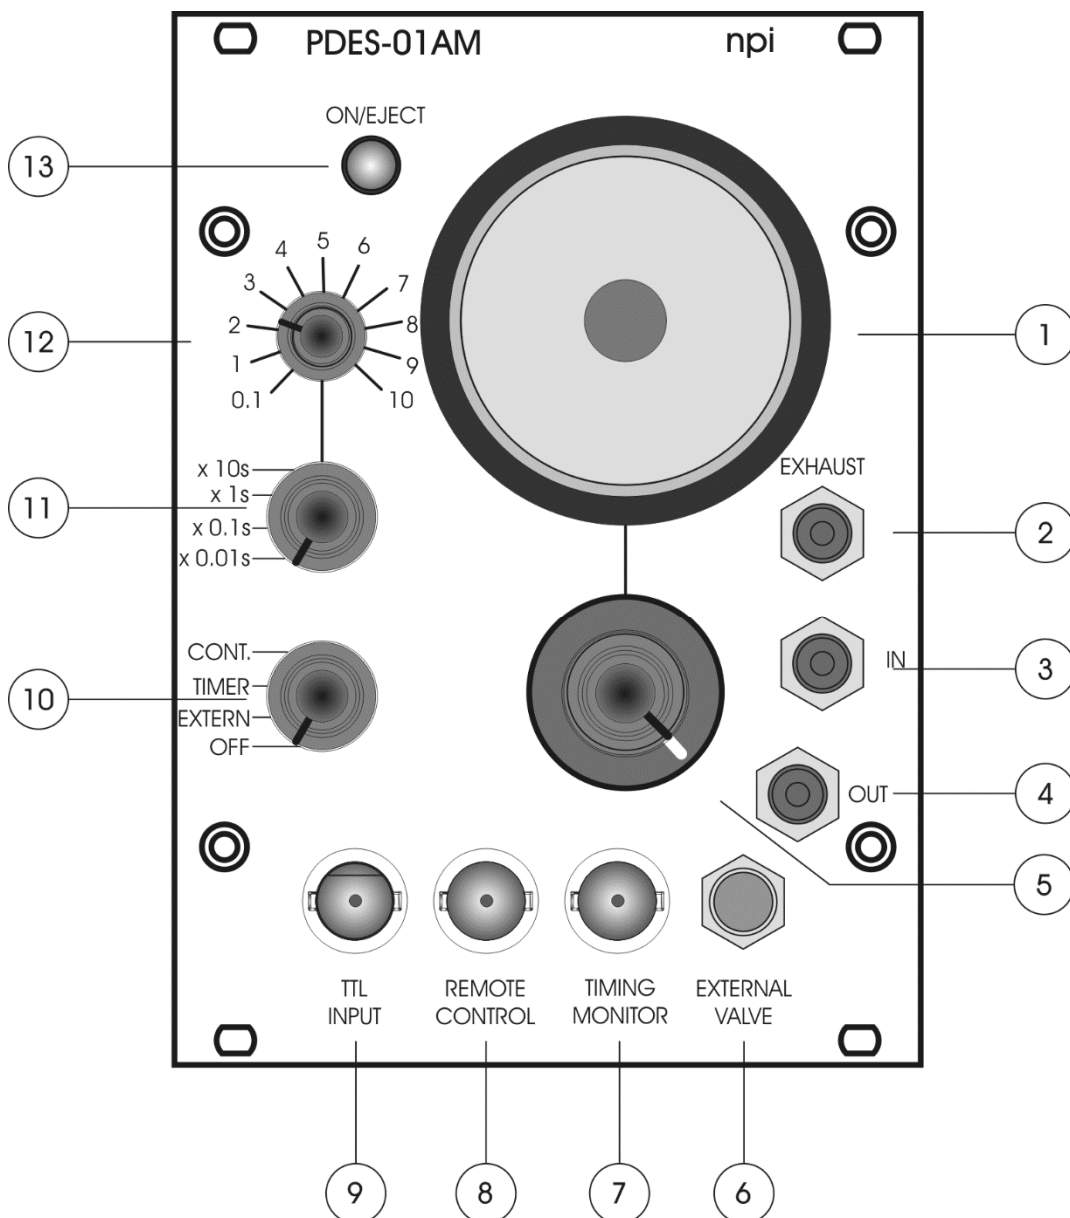
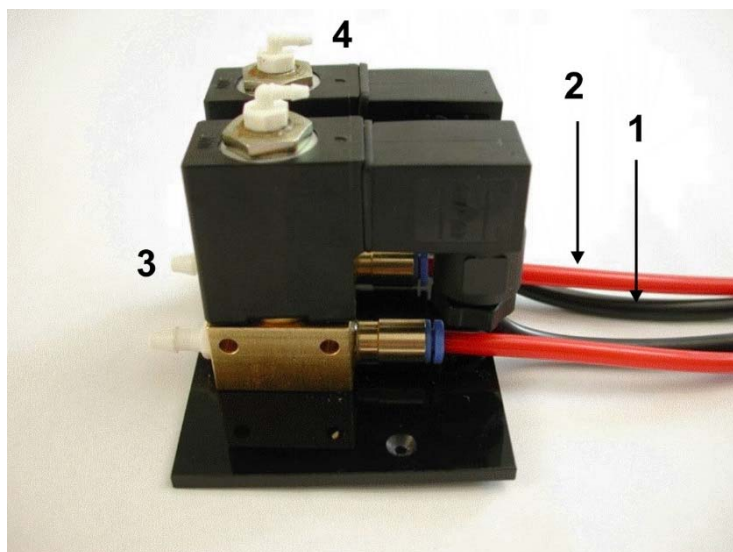

Figure 5: PDES-01AM front panel view (the numbers are related to those in the text below)
Figure 6: external valves on remote valve plate
The valve which is controlled by the PDES is located on the remote valve plate (see Figure 6). Tubing and cable of the external valves are connected at the front panel of the PDES system (refer to chapter 3.3). Exhaust is usually not connected.
- ❑ connect the *microJECT* pipette holder to the two *microJECT* connectors at the front panel (#4 OUT and #5 EXTERNAL VALVE, Figure 5), and connect your ejection pipette to the *microJECT* (#1, Figure 6).
- ❑ Connect a timing unit to the TTL INPUT connector (#9, Figure 5) at the front panel
connect a pushbutton to the REMOTE CONTROL connector (#8, Figure 5) at the front panel
- ❑ Select the operation mode using the toggle switch (#11, Figure 5) at the front panel.
- In the TIMER position the duration is preset by the timer control (#12, Figure 5) and time base (#11, Figure 5) of the PDES. Application is started with a TTL signal connected to TTL INPUT (#9, Figure 5) or by pressing the pushbutton connected to #8, Figure 5. In position OFF of the timer control for pressure ejection is disabled.
- In the OFF position the PDES module is turned OFF, the valve is closed. LED (#13, Figure 5) is also off. The source pressure value is still shown at the manometer #1, Figure 5, but opening of the valve is disabled in OFF position.
Hint: Ejection time can be monitored by recording the signal at #7, Figure 5!